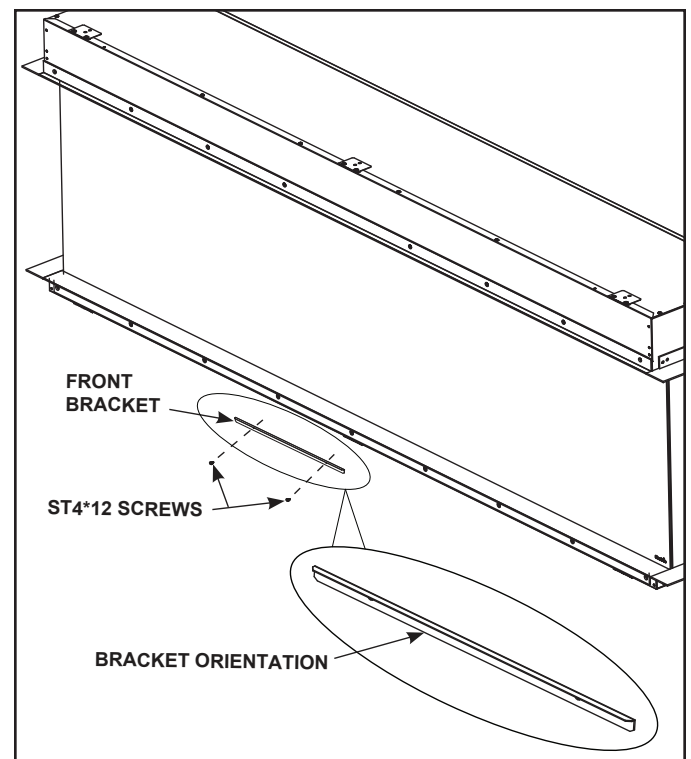

Figure 14
3. Attach the front bracket to the appliance using two (2) ST4\*12 screws. See Figure 14.